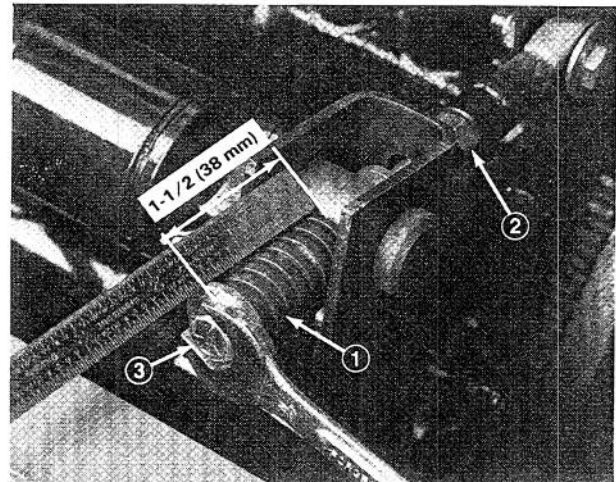
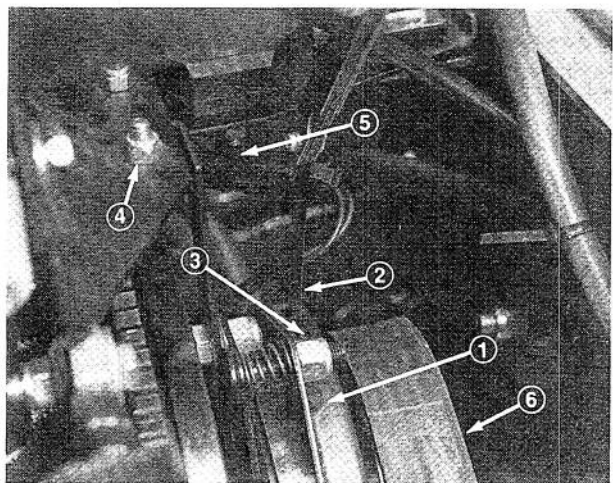

Figure 41
Figure 42
2. Loosen the tensioning rod jam nut (Fig. 41).
3. Use a 1/2" wrench to tighten or loosen the belt tensioning spring (Fig. 41). Adjust spring to a length of 1-1/2" (38 mm).
3. Using a 1/2" wrench, loosen the belt tensioning spring (Fig. 41) all the way.
4. Rotate PTO pulley toward the engine and remove the belt (Fig. 42).
5. Install the new PTO belt and retension the pulley spring to 1-1/2" (38 mm) (Fig. 41).
6. Tighten the jam nut (Fig. 41) and close the hood.
2. Remove the left hand clutch retainer bracket nut and bolt so that the retainer bracket rubber bumper can be removed (Fig. 42).
3. Unplug clutch electric connector (Fig. 42).
4. Adjust the air gap so that a .015 inch feeler gauge slides in between the clutch lining and friction plate with light pressure (Fig. 42). The gap can be decreased by turning the adjusting nut clockwise (Fig. 41).